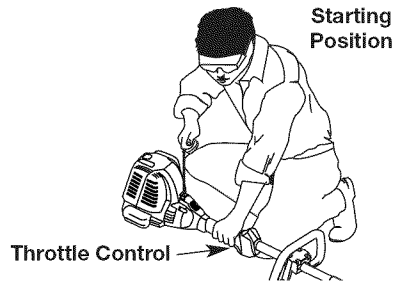

Fig. 8
**WARNING:** Avoid accidental starting. Make sure you are in the starting position when pulling the starter rope (Fig. 8). To avoid serious injury, the operator and unit must be in a stable position while starting.
4. With the unit in the starting position, **do not squeeze the throttle control** (Fig. 8). Pull the starter rope until unit starts.
4. With the unit in the starting position (Fig. 8). Place the electric starter into the back of the unit. Refer to Operation section of the Electric Starter operator's manual.
5. **Do Not squeeze the throttle control**, press and hold the electric starter ON (I) button for 2 second intervals until unit starts.